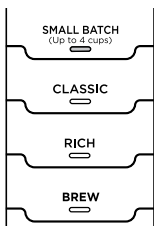

Fig. 6
- 6 Select either CLASSIC or RICH brew. If you are brewing 4-cups or less, also select SMALL BATCH. (Fig. 6).